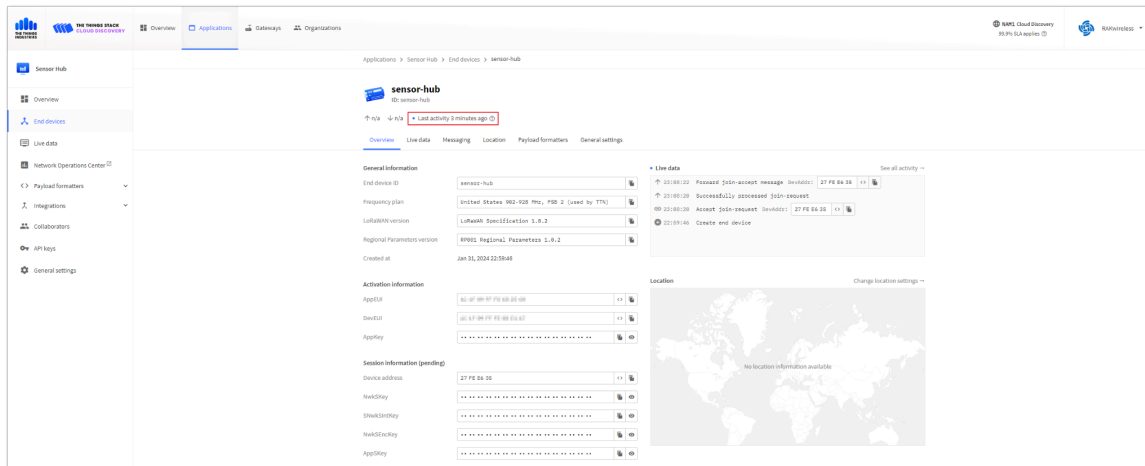

Figure 68: Successfully joined the TTNv3 network server
7. As shown in **Figure 68**, the Sensor Hub has successfully joined the TTNv3 network server.